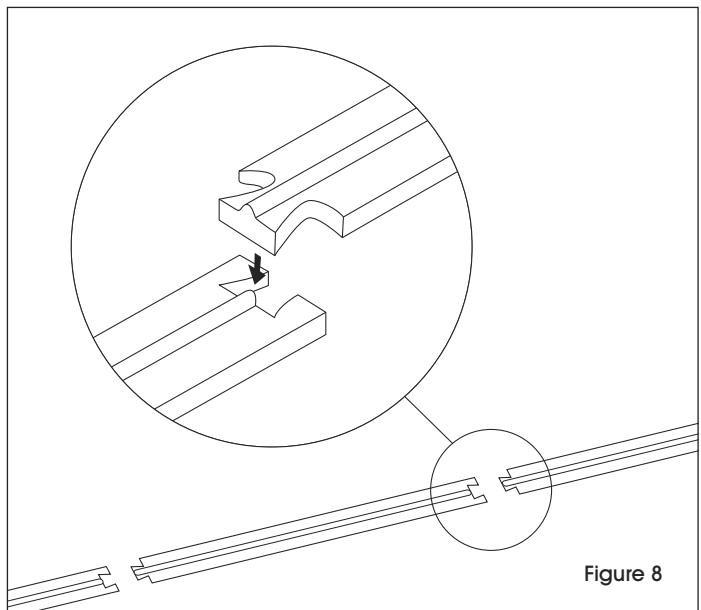

Figure 8
2. Place end track in desired location and connect track segments. (See Figure 8)